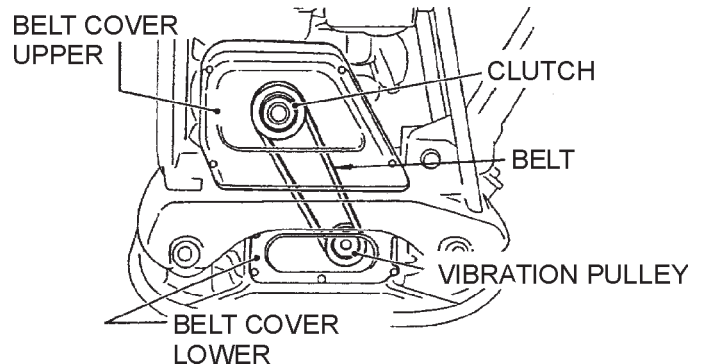

Figure 8. V-Belt Location
1. To check the V-belt tension (Figure 8), remove **upper** belt cover.